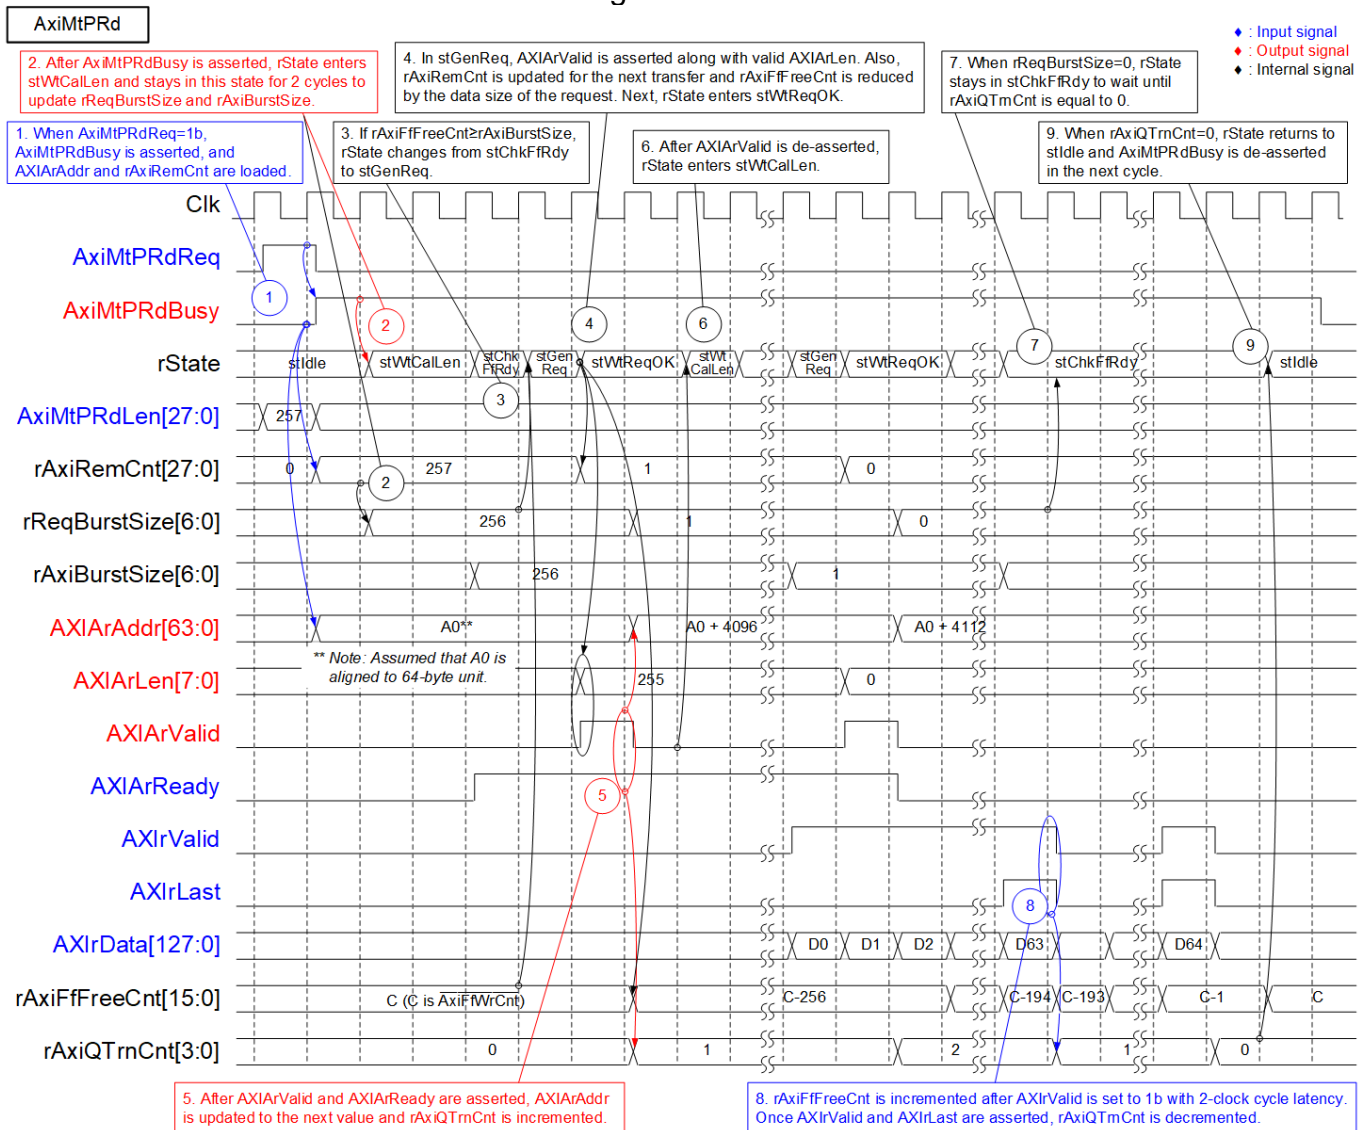
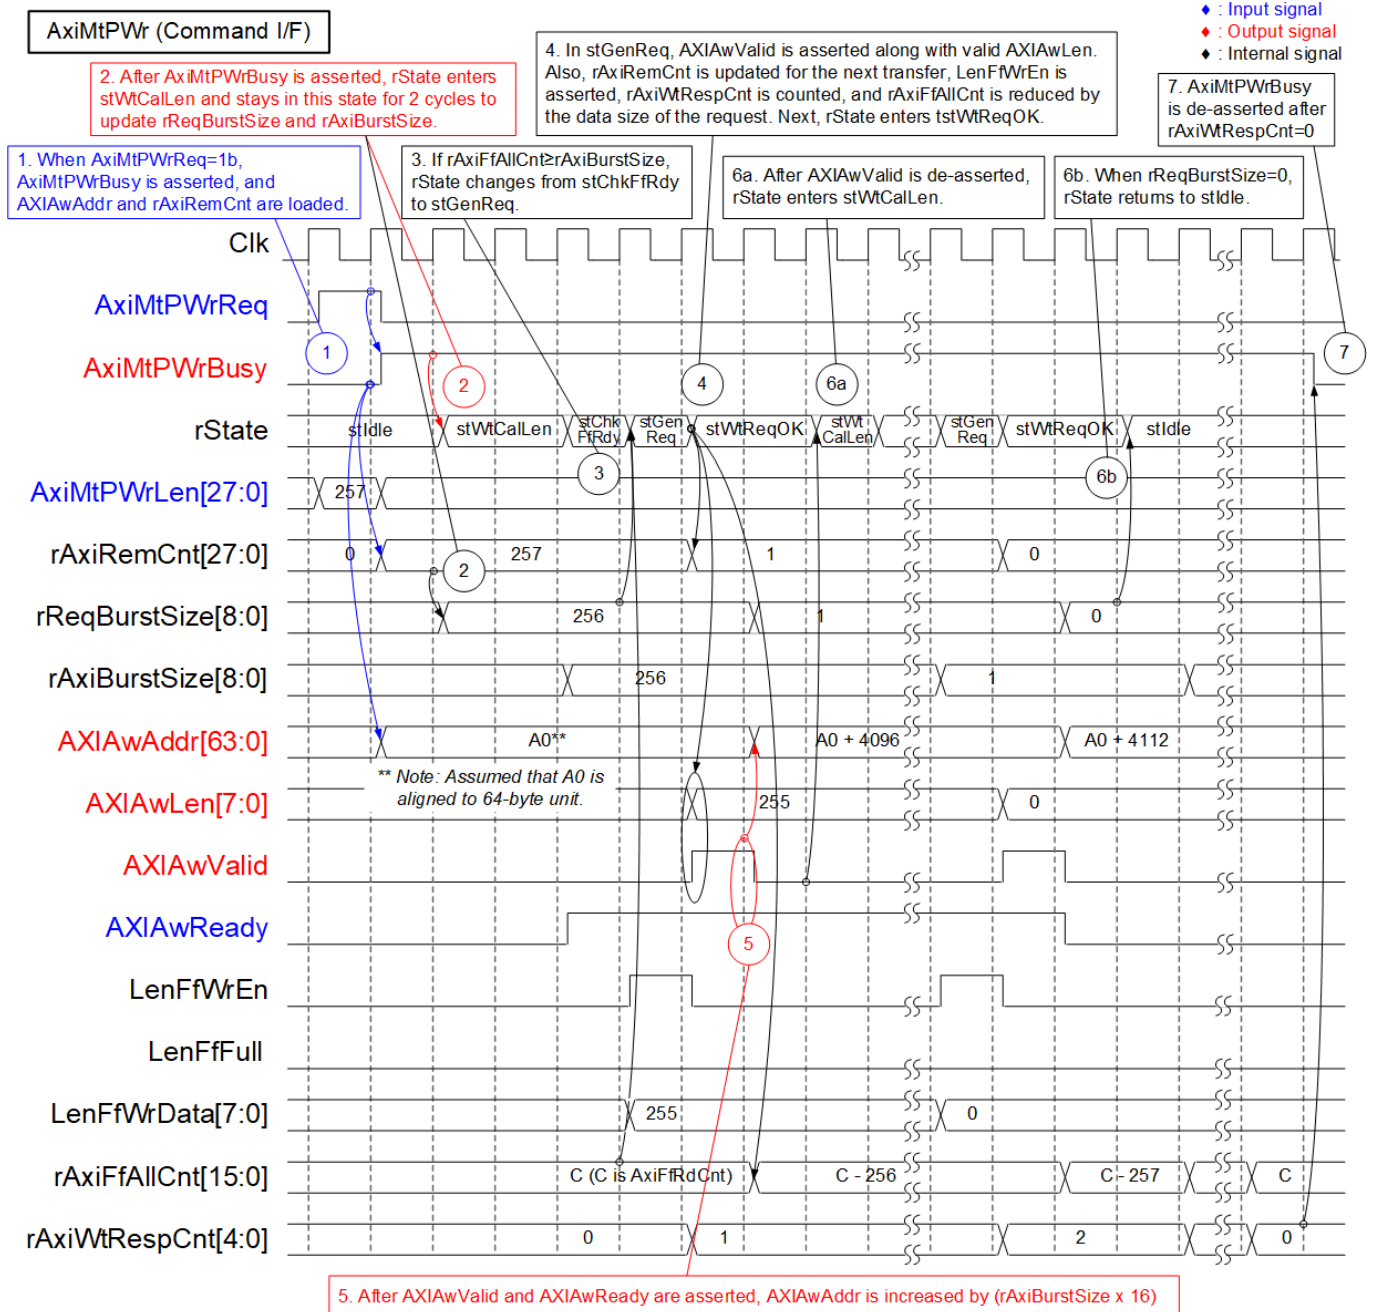
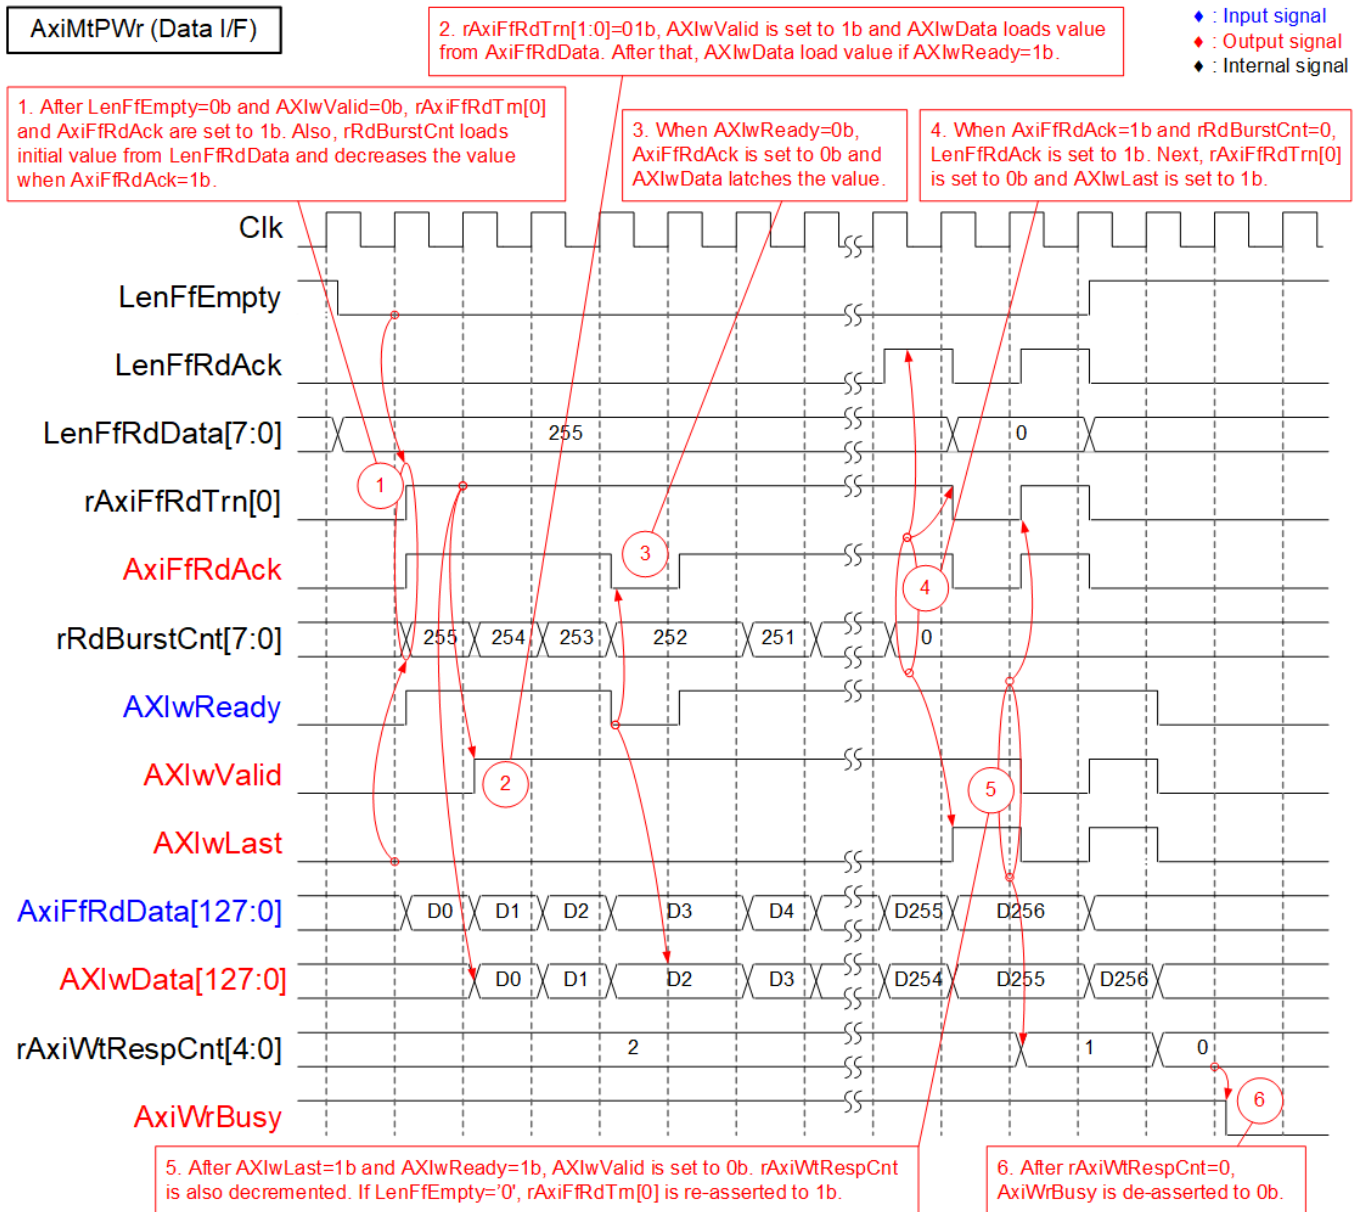

Figure 2-17 AxiMtPRd Timing diagram
Figure 2-19 Command I/F of AxiMtPWr Timing diagram
Figure 2-20 Data I/F of AxiMtPWr Timing diagram
Figure 2-17 shows the timing diagram of AxiMtPRd logic when the new command request is set along with setting total transfer size to 257 and the start address on AxiPRdAddr to A0. Assumed that A0 is aligned to 64-byte unit. In this condition, AxiMtPRd generates two read command requests with setting burst size to 256 and 1, respectively, to AXIar I/F, and then all data is returned to AxiMtPRd through AXIr I/F.
Figure 2-19 and Figure 2-20 show timing diagram of the command interface (AXIAw I/F) and the data interface (AXIw I/F) when AxiMtPWr is executed. User sets transfer length to 257 for this request, so two write command requests are created to AXIAw I/F with setting the burst size to 256 and 1, respectively. Assume that the start address of the user request is aligned to 64-byte unit. The core engine for controlling AXIAw I/F is the state machine.
Steps 1) – 5) for generating the write request to the AXIAw I/F in Figure 2-19 are similar to those described in steps 1) – 5) of Figure 2-17 in section 2.4.2. However, the AXIAr I/F signals and rAxiFfFreeCnt are replaced by the AXIAw I/F signals and rAxiFfAllCnt, respectively. rAxiWtRespCnt, which has the same function as rAxiQTrnCnt, is updated in step 4) instead of step 5).
Note: Figure 2-19 does not include the data interface, so the operation of rAxiFfAllCnt is not completely displayed. When each data is read from AxiRxFifo (AxiFfRdAck=1b), rAxiFfAllCnt is incremented. After finishing the operation, the last value of rAxiFfAllCnt is equal to AxiFfRdCnt.
When LenFifo has data, the data interface on AXIw I/F is initiated by reading the transfer size of each packet from LenFifo. After that, the data from AxiRxFifo which is FWFT type is forwarded to AXIw I/F. Two transfer sizes are demonstrated in Figure 2-20, 256 and 1, respectively.
- 5) After the last data is accepted by AXIw I/F (AXIwLast=1b and AXIwReady=1b), AXIwValid is de-asserted to 0b, and rAxiWtRespCnt is decremented. At the same time, the new data transfer is initiated by repeating steps 1) – 5) if LenFifo has data (LenFfEmpty=0b). In Figure 2-20, the next data transfer sets the transfer size to be one.